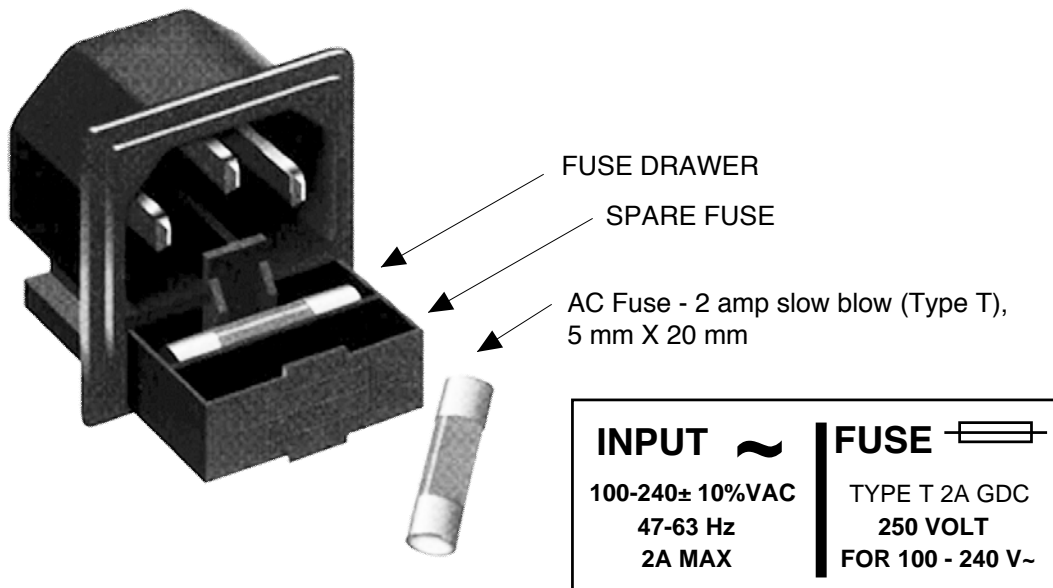

FIGURE 2.3 Fuse Location and Spare Fuse
7. **AC Fuse** - The fuse is a 5 mm X 20 mm, 2 amp slow blow (Type T) and is inserted in the far slot in the drawer below the AC input as shown in Figure 2.3. There is a spare fuse in the near slot. If a fuse continues to open, the power supply is most likely defective.